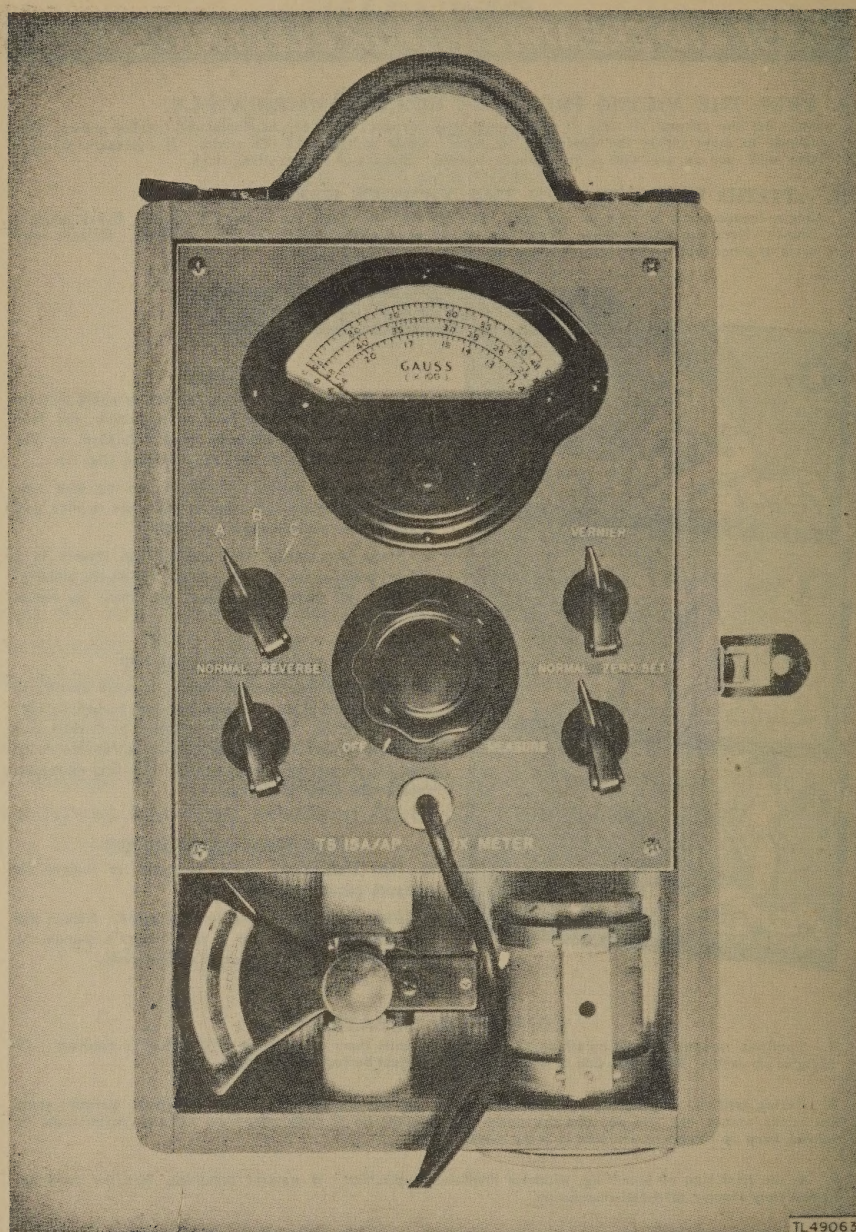

Figure 1. Fluxmeter TS-15A/AP.
a. The series of Fluxmeters TS-15/AP, TS-15A/AP, and TS-15B/AP is designed to provide qualitative measurements of the flux densities in magnets used in oscillatory circuits of X-band and S-band transmitters. Fundamentally, the three fluxmeters have the same basic features (fig. 1). Modifications have been made, however, in the models TS-15A/AP and TS-15B/AP to facilitate operation and insure greater accuracy of measurements. Each instrument is self-contained and mounted in a portable wooden cabinet  $4\frac{1}{2}$  inches deep, 6 inches wide, and 10 inches long; the complete set weighs  $6\frac{1}{2}$  pounds. A 1.5-volt battery mounted within the case supplies the power for each set.
**b. Fluxmeter TS-15A/AP** (fig. 1). This instrument measures flux densities on three ranges from 1,200 to 9,600 gauss. The measurements are read on three meter scales marked A, B, and C. The A-scale covers a range of 1,200 to 2,400 gauss; the B-scale, a range of 2,400 to 4,800 gauss; and the C-scale, a range of 4,800 to 9,600 gauss. The meter readings are accurate within  $\pm 2$  percent. The panel equipment for this instrument consists of the triple-range gauss meter, a three-position range switch labeled A, B, and C, a two-position switch marked NORMAL and ZERO SET, a two-position switch marked NORMAL and REVERSE, an OFF-MEASURE control including the instrument on-off switch, and a VERNIER control for making finer adjustments of the meter pointers when using the OFF-MEASURE control. In addition to the yoke described in subparagraph **a** above and provided with this instrument, a smaller yoke is supplied for making measurements on magnets with gaps of 0.6 to 0.7 inch and pole face diameters of  $\frac{7}{8}$  inch to  $1\frac{1}{8}$  inches.